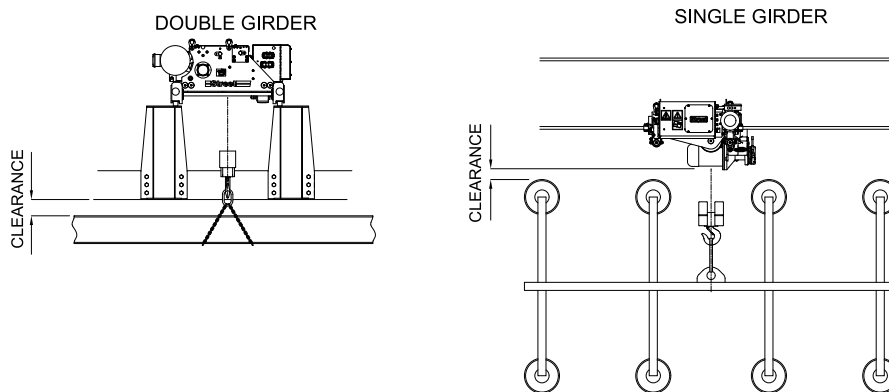

Figure 20 – Clearances to consider when lifting
18. Ensure that adequate clearance is maintained between the load or lifting attachment and the hoist or crane structure. See Figure 20.